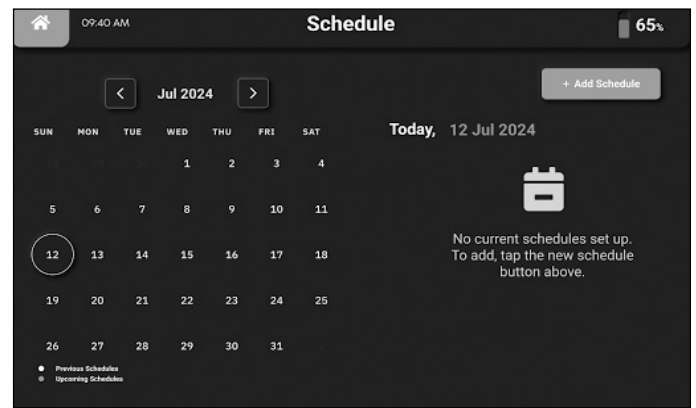

Figure 49
2. Press 'Add Schedule' (**Fig. 49**).